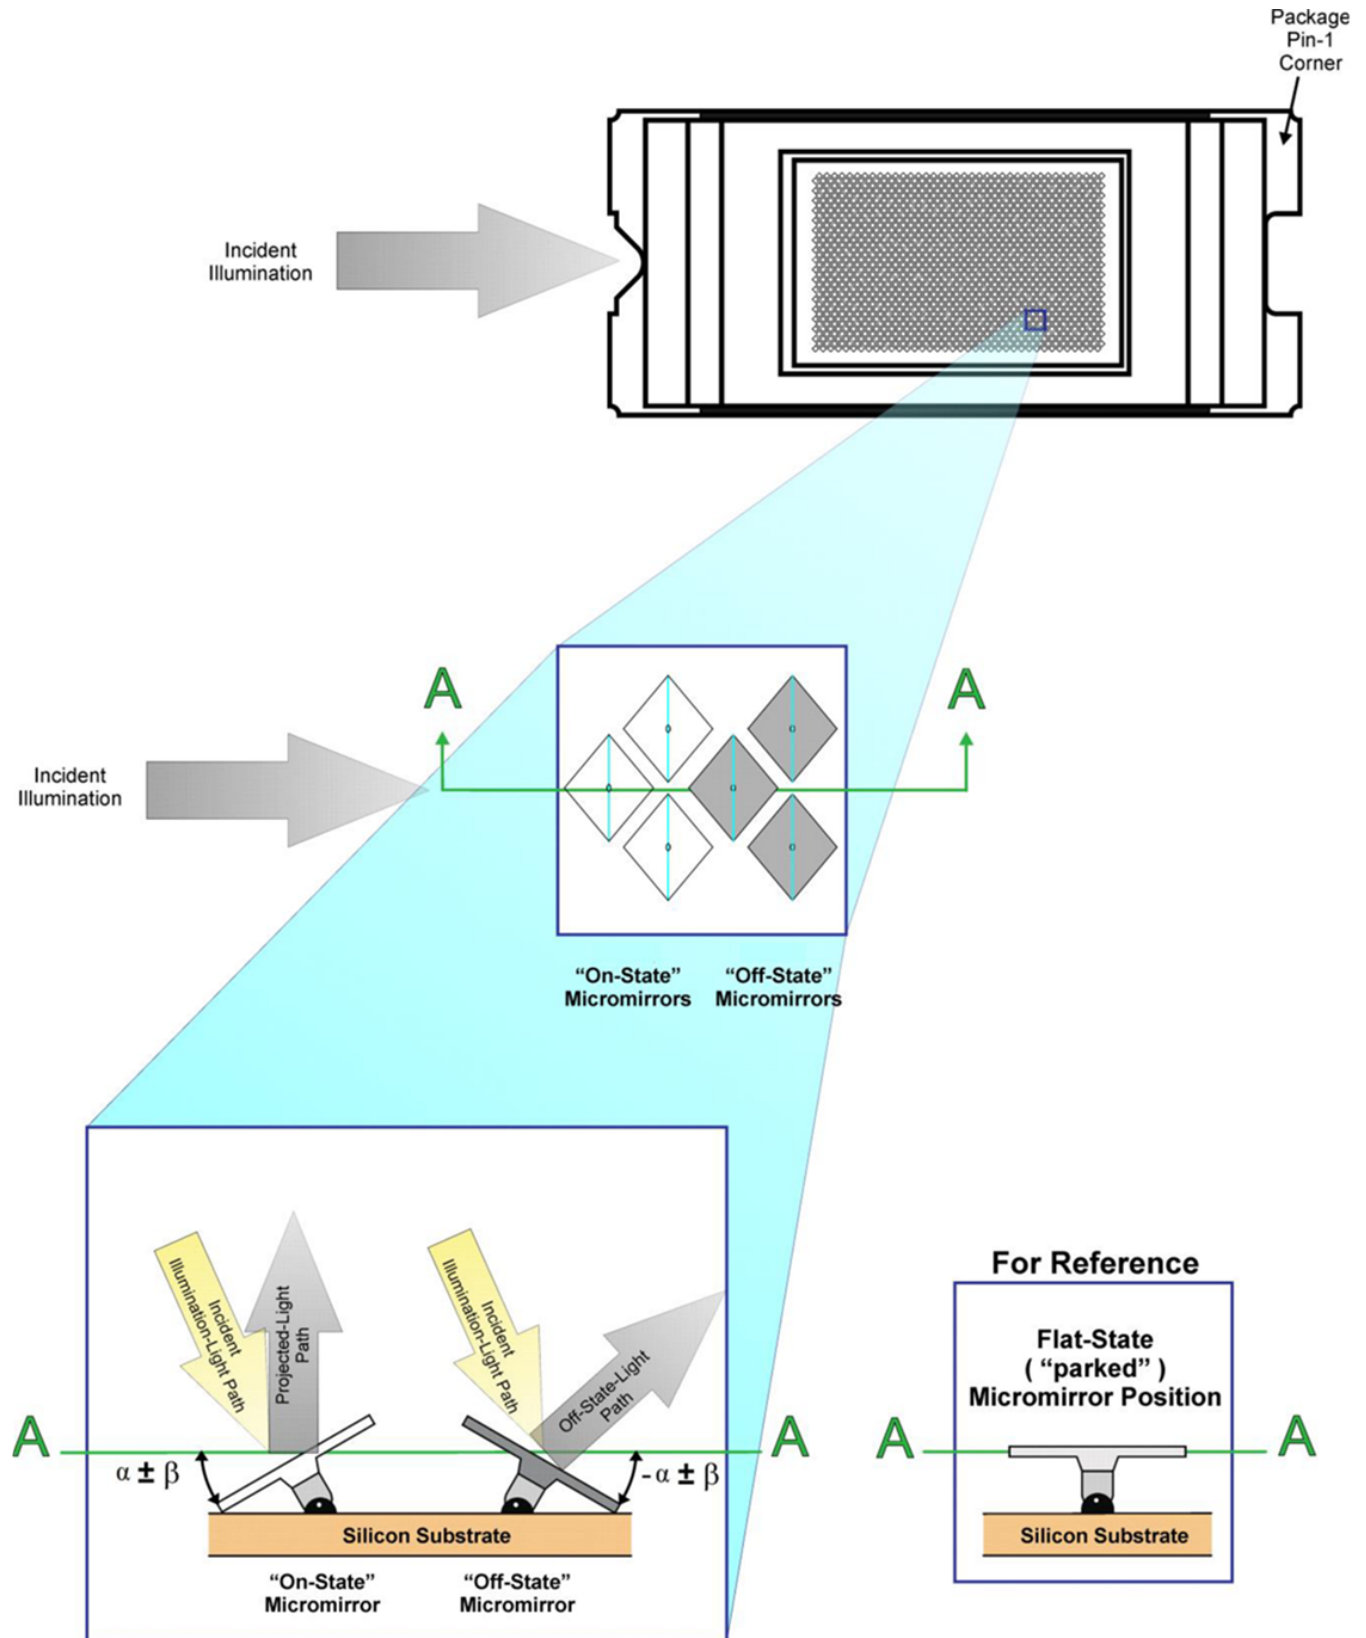

Figure 7. Micromirror Landed Positions and Light Paths
- (1) Measured relative to the plane formed by the overall micromirror array.
- (2) *Parking* the micromirror array returns all of the micromirrors to a relatively flat (0°) state (as measured relative to the plane formed by the overall micromirror array).
- (3) When the micromirror array is *parked*, the tilt angle of each individual micromirror is uncontrolled.
- (4) See Figure 7.
- (5) Additional variation exists between the micromirror array and the package datums.
- (6) When the micromirror array is *landed*, the tilt angle of each individual micromirror is dictated by the binary contents of the CMOS memory cell associated with each individual micromirror. A binary value of 1 results in a micromirror *landing* in an nominal angular position of +12°. A binary value of 0 results in a micromirror *landing* in an nominal angular position of –12°.
- (7) Represents the *landed* tilt angle variation relative to the nominal *landed* tilt angle
- (8) Represents the variation that can occur between any two individual micromirrors, located on the same device or located on different devices.
- (9) For some applications, it is critical to account for the micromirror tilt angle variation in the overall system optical design. With some system optical designs, the micromirror tilt angle variation within a device may result in perceivable non-uniformities in the light field reflected from the micromirror array. With some system optical designs, the micromirror tilt angle variation between devices may result in colorimetry variations or system contrast variations.
- (10) Micromirror crossover time is primarily a function of the natural response time of the micromirrors.
- (11) Performance as measured at the start of life.
- (12) Non-operating micromirror is defined as a micromirror that is unable to transition nominally from the –12° position to +12° or vice versa.
- (13) Measured relative to the package datums B and C, shown in the Package Mechanical Data section in Mechanical, Packaging, and Orderable Information.
- (14) The nominal DMD total optical efficiency results from the following four components:
Each micromirror is switchable between two discrete angular positions: -12° and 12° . The angular positions α and β are measured relative to a 0° flat reference when the mirrors are parked in their inactive state, parallel to the array plane (see Figure 7). The parked position is not a latched position. Individual micromirror angular positions are relatively flat, but do vary. The tilt direction is perpendicular to the hinge-axis. The on-state landed position is directed toward the left side of the package (see Figure 7).